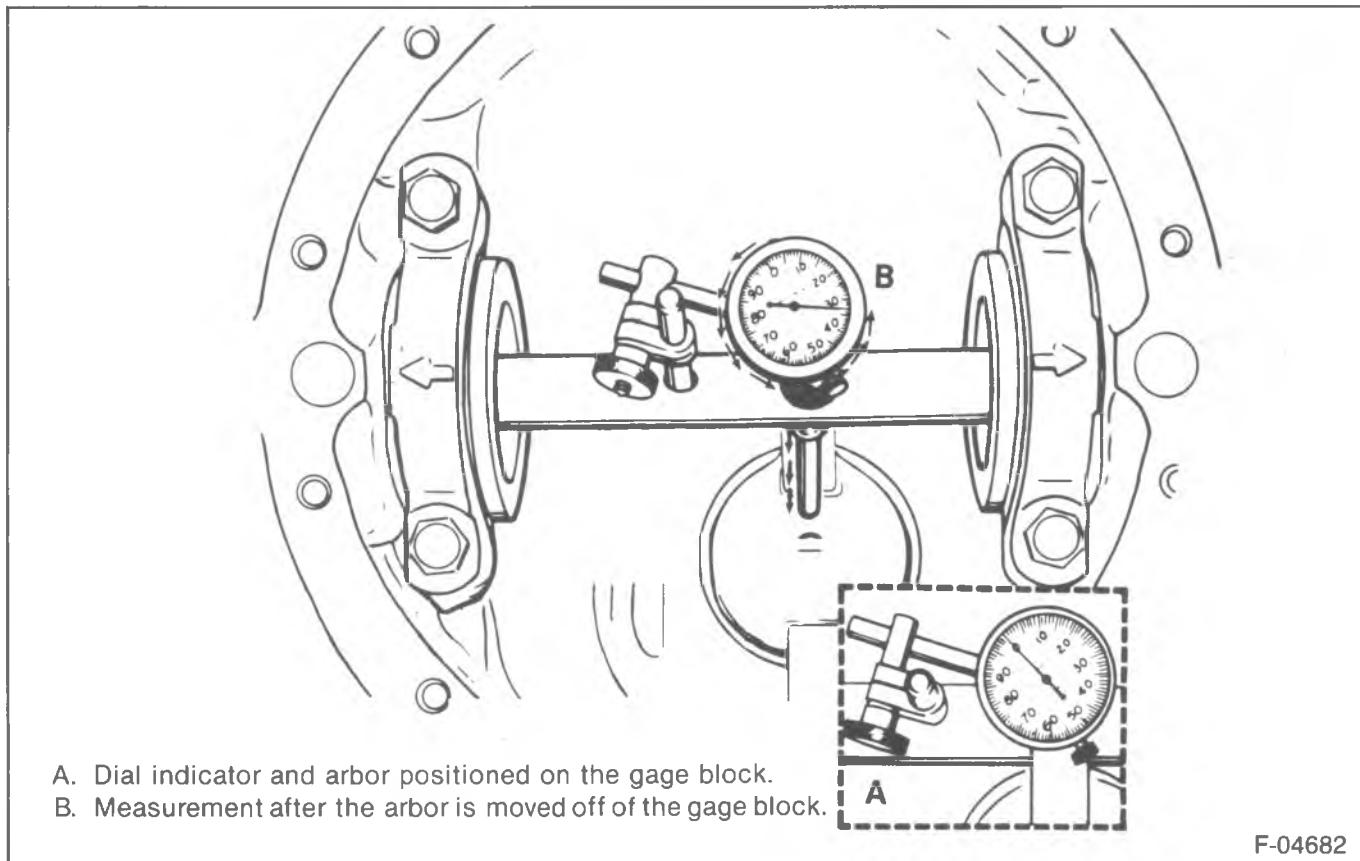

Figure 54—Checking Pinion Depth
12. Set the dial indicator at zero. Push the indicator down on the indicator shaft until the needle rotates approximately $\frac{3}{4}$ of a turn to the right. Tighten the dial indicator in this position (figure 54).